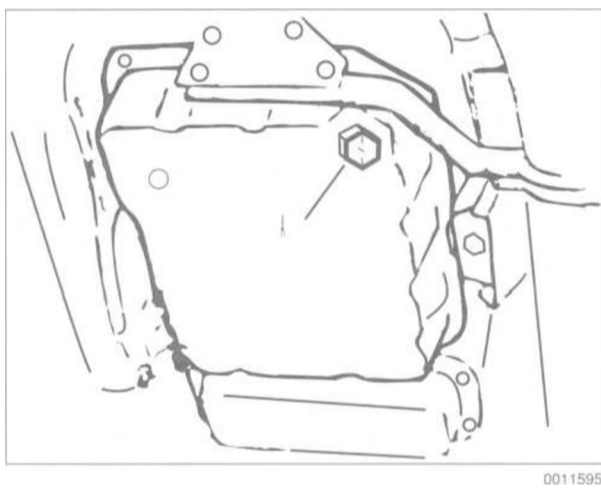

Fig. 24. ATF drain plug (A) on A4S 31 OR.
2. Remove drain plug and drain fluid into container. See Fig. 24.